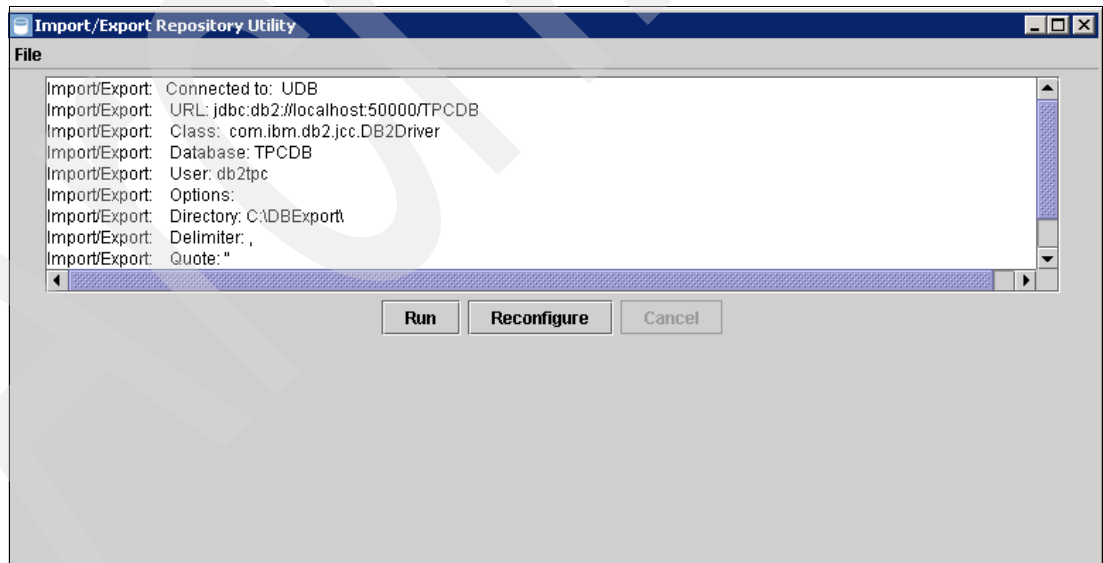

Figure 6-84 Database information displays
7. Click **Finish**. The database information displays (see Figure 6-84).